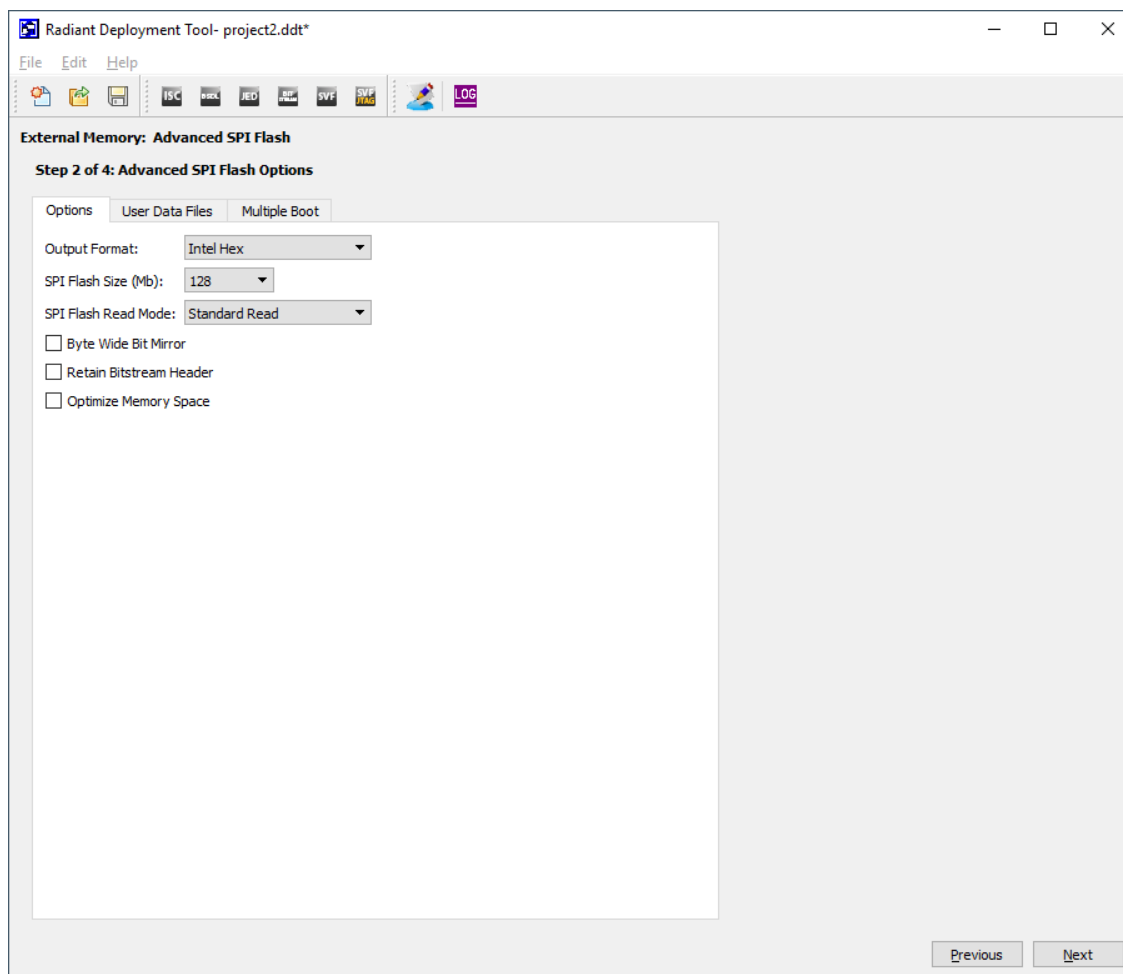

Figure 6.13. Advanced SPI Flash Options – Options Tab Window
Step 2 of 4: Advanced SPI Flash Options window (Figure 6.13)